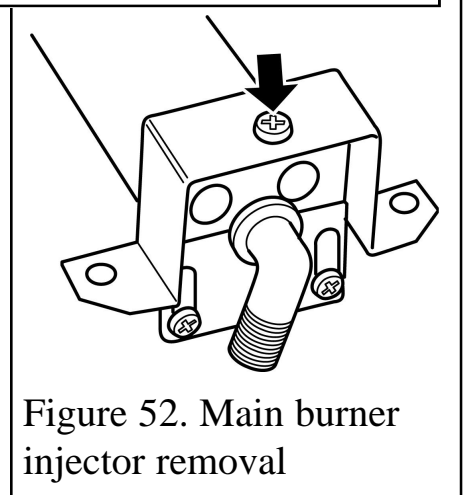

Figure 52. Main burner injector removal
(See figure 52).
2. Remove the burner clamping screw (See figure 52).